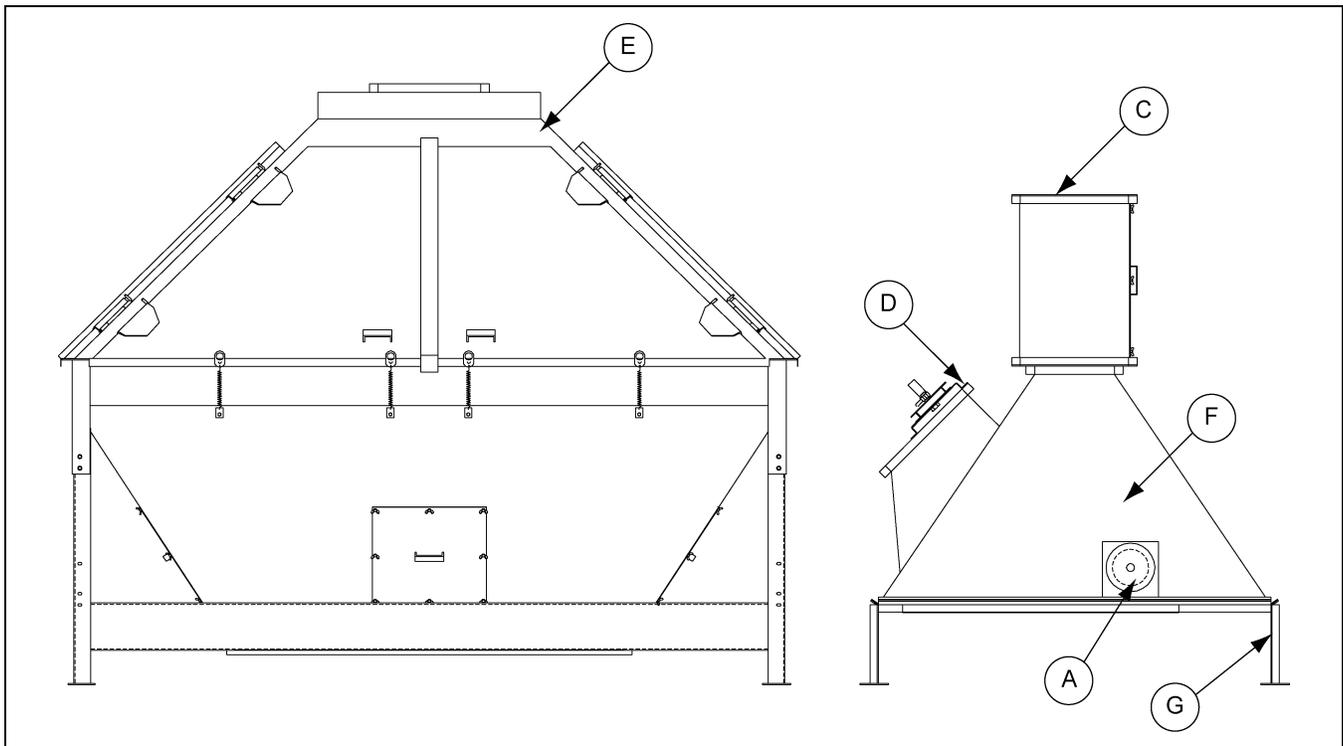

Figure 4E Screener Models PC-16000, PC-25000, PC-40000 as Shipped
The larger screeners, Models PC-16000, PC-25000 and PC-40000 are shipped in three (3) sections: (See Figure 4E on Page 19.)